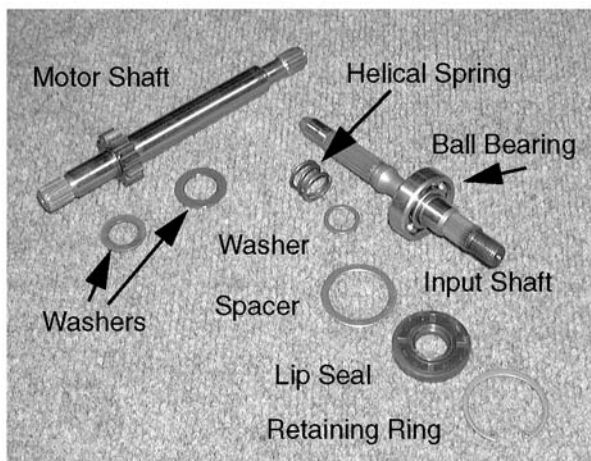

Figure 6-63.
25. Remove the input shaft assembly and inspect it for damage or wear. See Figure 6-63.